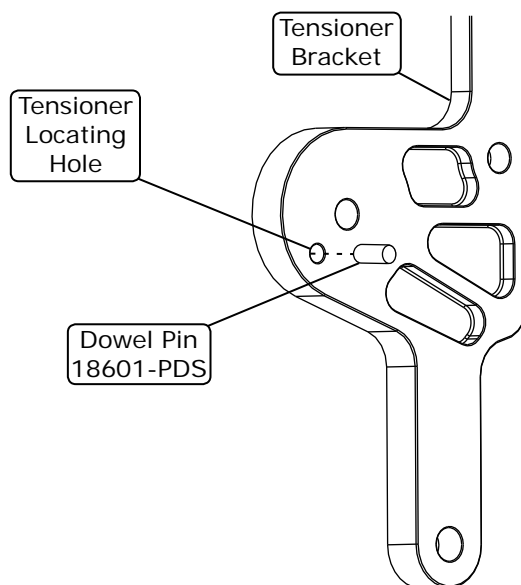

Figure 7
1. Carefully install the dowel pin into the locating hole of the tensioner bracket (See Figure 7, below).